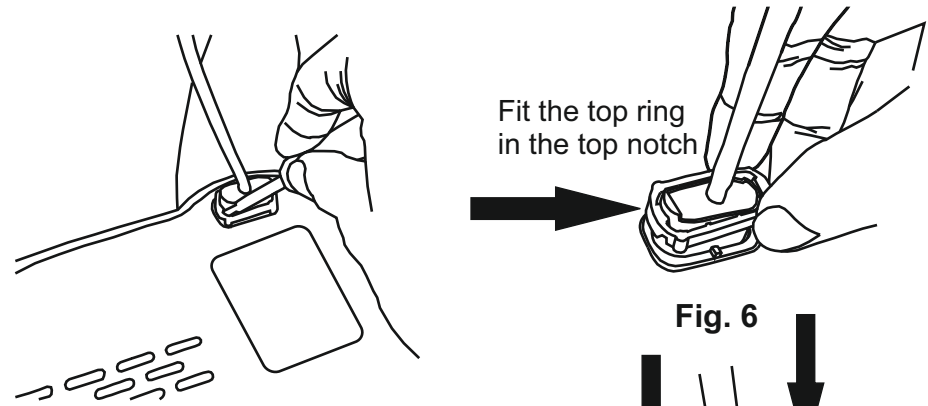

Fig. 5
- 4) Take a small flat head screw driver and put it between the top ring and sensor module as shown in the Fig. 5. Pull it up to dislodge the top ring from the sensor module. It is ok for the top ring to bend or twist during this process.